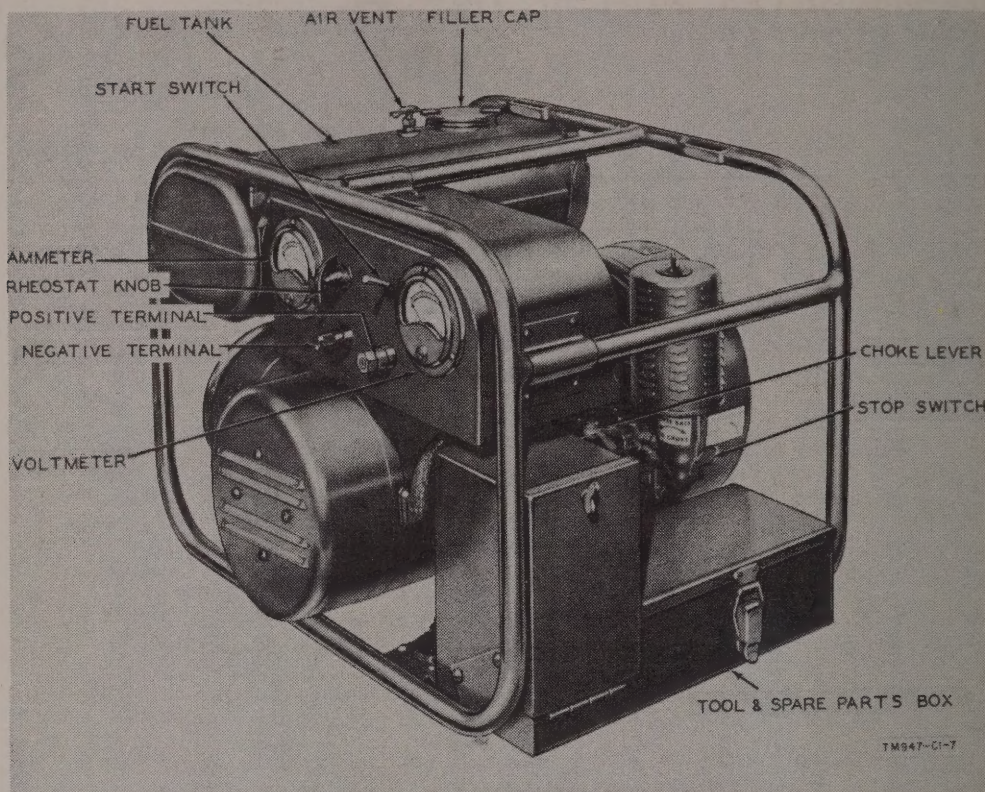

Figure 2.1. Power Unit PE-210-B, three-quarter view.
Page 1. Fig. 2. Insert figure 2.1 after figure 2.
c. GENERATOR CONTROL C-890/U. This control box is attached to the tubular frame of the unit (fig. 2.1). It contains a rheostat, starting switch, reverse-current relay, a 0- to-50-ampere scale ammeter, a 0-to-30-volt scale voltmeter, and three capacitors. A terminal block is mounted on the inside of the bottom of the box.
(1) The rheostat, in conjunction with the electric governor, controls the engine speed and generator voltage to permit charging batteries of 6 to 18 volts.
(2) When the unit is connected to a battery of 12 volts or higher, the starting switch, when held in the ON position, permits the battery current to flow through the generator and thus causes it to act as a motor for cranking the engine.
(3) The reverse-current relay closes the charging circuit when the generator voltage rises sufficiently to charge the battery. This